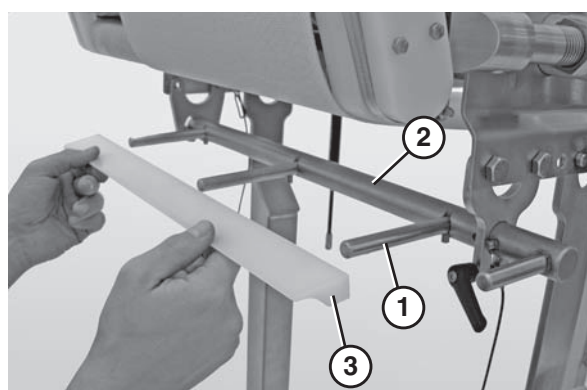

Figure 29
4. Attach the scraper bar holders (Figure 29, item 1) to the scraper shaft (Figure 29, item 2).
5. Attach the UHMW scraper (Figure 29, item 3) to the scraper bar holders (Figure 29, item 1).